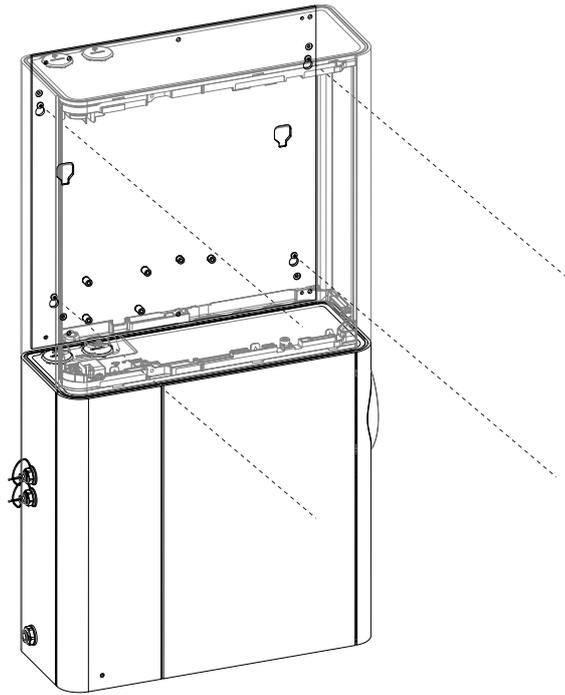

Figure A-34: Tighten Mounting Screws
6. Insert the third and fourth mounting screw and tighten all four (Figure A-34).